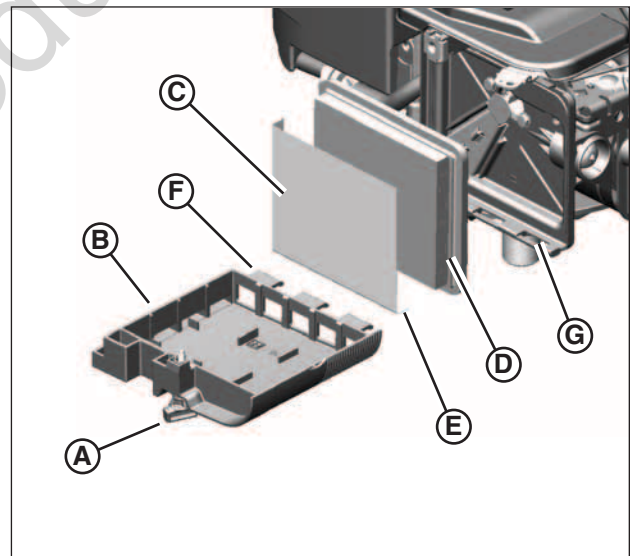

Figure 16: Air filter and pre-cleaner
1. Loosen the fastener (**A, Figure 16**) that holds the cover (**B**).